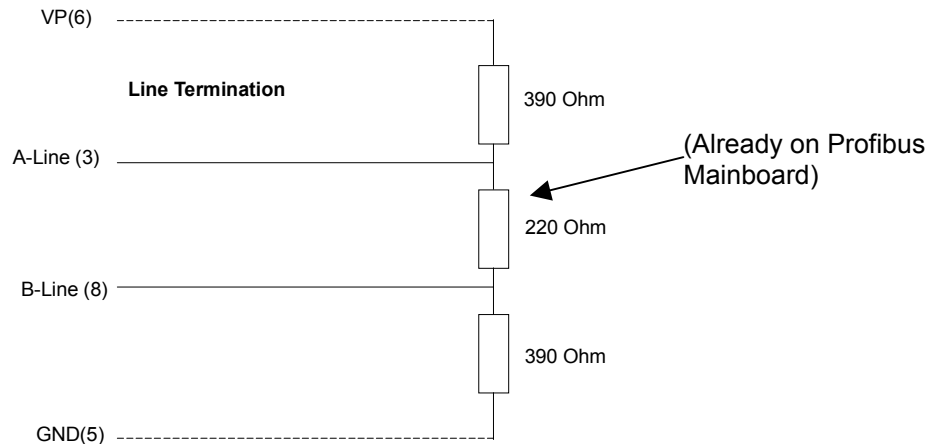

Figure 3.2
- b. It is necessary to terminate both ends of the network. Both terminations must have power to them to insure proper operation of the network. Figure 3-2 illustrates the correct connection for the termination resistors.
NOTE: Figure 3.2 is for illustrative purposes only. Cabling and connectors should be PTO approved to achieve the desired performance results. See Section 3.1.3 for recommended part numbers.